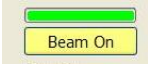

Figure 8
3. Open the chamber door slowly, and locate the sample stage. Attach samples tightly to proper pin stabs and fasten pin stabs to the stage (Do NOT overtight the screw). **Adjust the height of sample stage to make sure the sample surface is close to Max marker of the gauge (Figure 8)**. Center and tight the cross piece of the stage with the two cylindrical pieces.